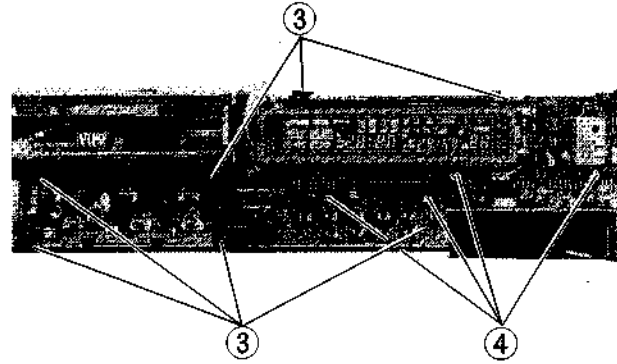

Fig. 3 Timer Input Key Circuit Board
3. Timer Input Key Circuit Board (Figs. 3 and 4)